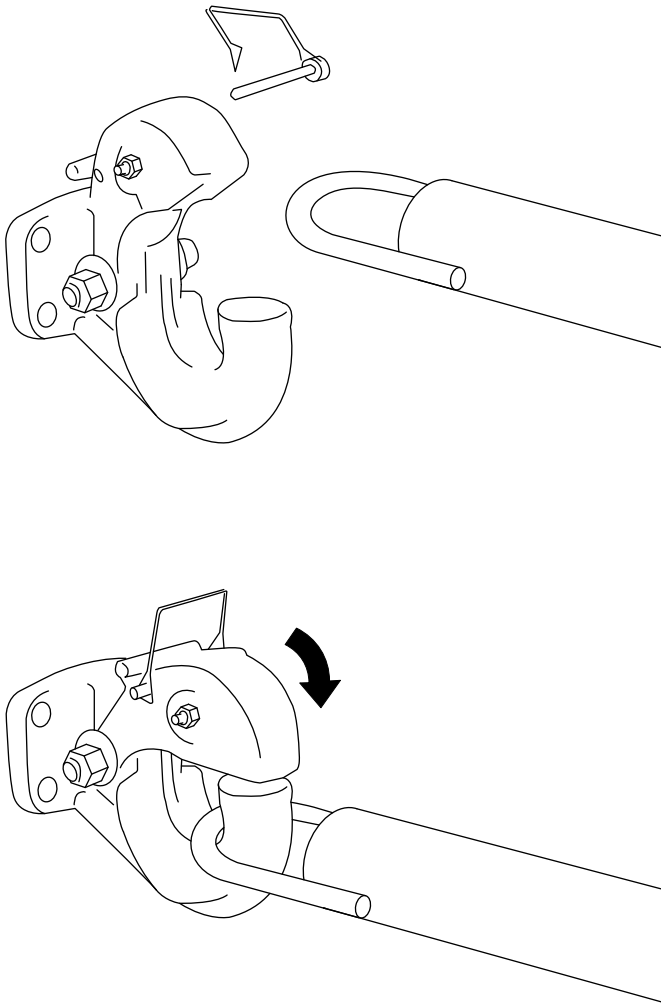

Figure 24
1. Remove the pin from the pintle hitch and open it (Figure 24).
2. Position the ring on the tow pole onto the hook of the pintle hitch (Figure 24).
3. Close the top of the pintle hitch and secure it with the pin (Figure 24).